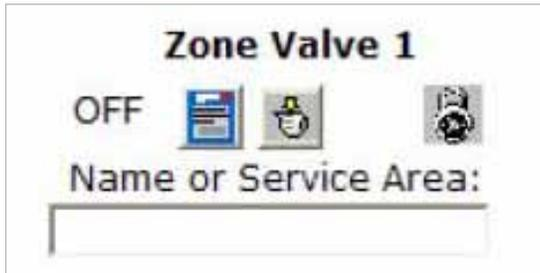

Figure 2.11-3: Zone Valve Description
1. On the Zone Valves screen, click in a Name or Service Area box as shown in **Figure 2.11-3**.
The area between the zone valve label and the Name or Service Area box displays information about each zone valve and allows the user to access certain zone valve features. **Figure 2.11-3** shows the following icons.